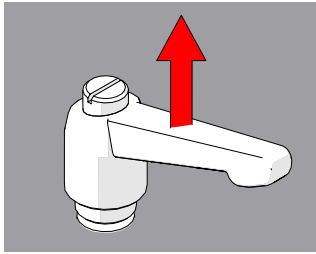

Fig. 239 - Pull ratchet handle
1. Pull the ratchet lever away from the base of which it is connected (*Fig. 239*).